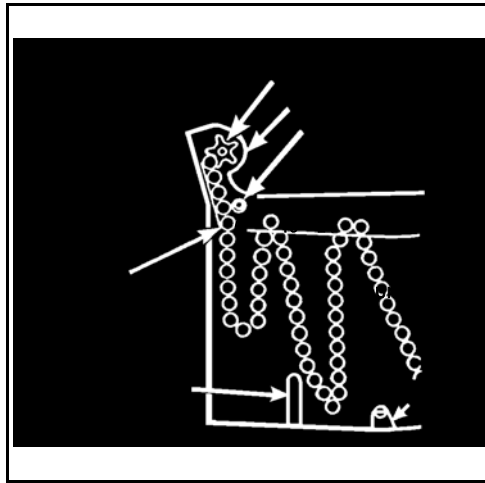

Figure 5. Rounds in forwarder.
8. *Gunner*: Forwards the ammunition belt (Figure 5).